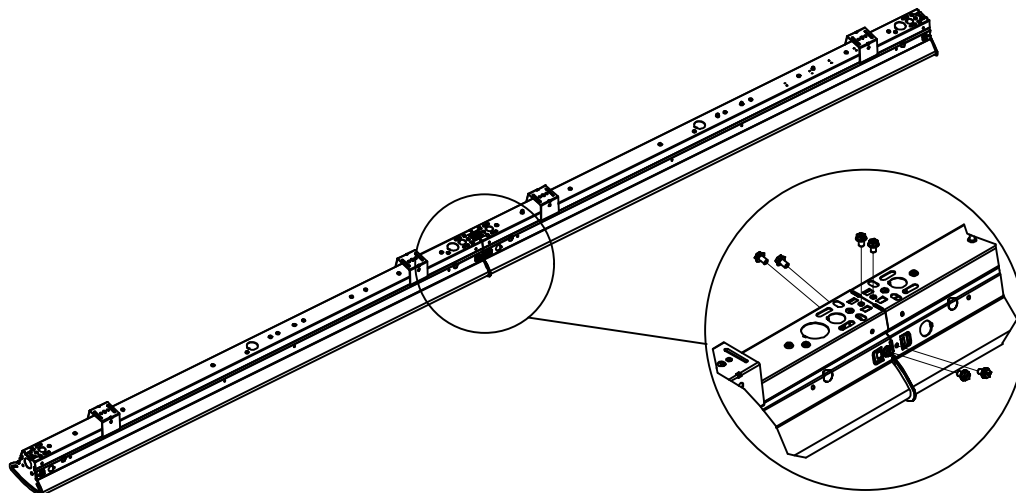

FIG 8: ROW MOUNT CONFIGURATION
- 4) Install screws as shown in FIG 8 and make electrical connections inside luminaire in accordance with the National Code and local regulations. Refer to page 1 for installing the LED carrier and lens.